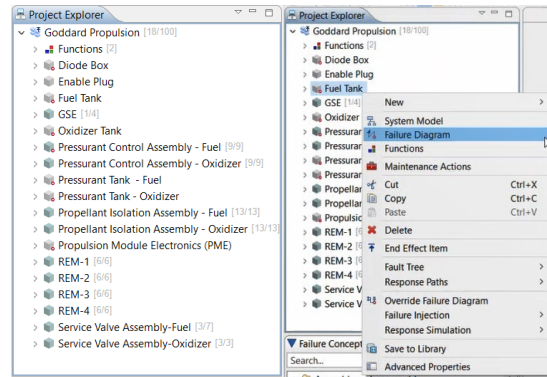

Figure B10: Project Explorer and Failure Diagram Navigation
- 1) Open the *failure diagram* by right-clicking on the modeling element in the *Project Explorer* or in its parent FBD and selecting “Failure Diagram” (Figure B10).